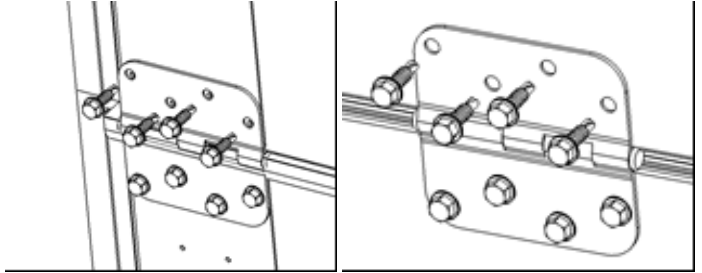

Figure 9. Hinge Installation.
5. Using the ¼-14x1" Tek screws (4 each), secure the hinges from panel to panel. (See **Fig 9**) Be sure to use all the holes in the hinge total of 8 screws per hinge.